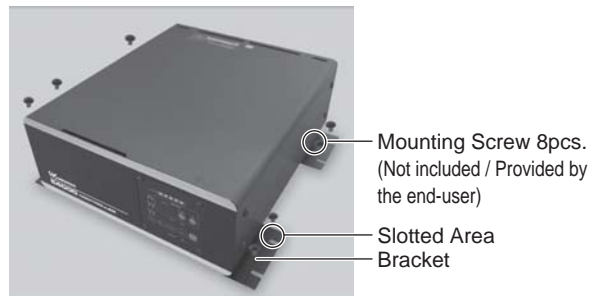

Fig. 11
- ③ Attach the CONTROLLER (Bracket's Slotted Area) to the machine using the mounting screws (**8 pcs. not included / provided by the end-user.**) (Fig. 11).